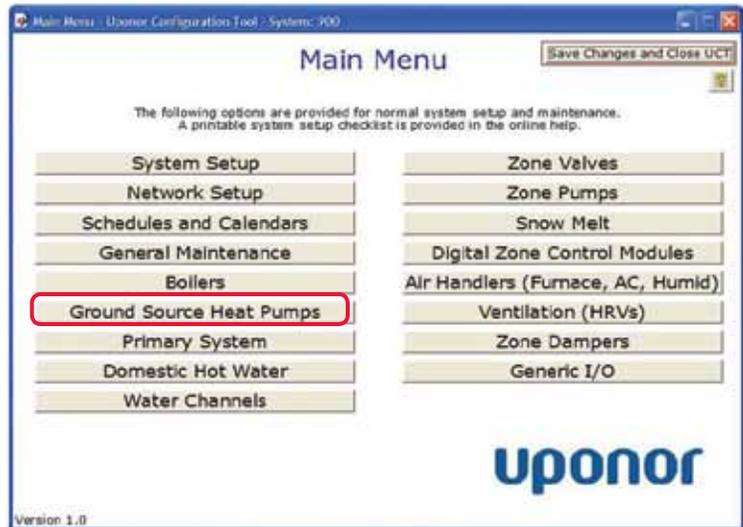
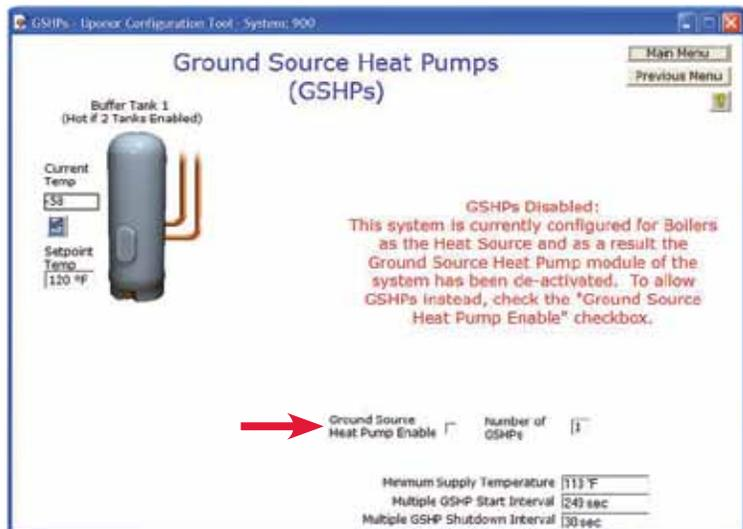

Figure 2.7-1: Main Menu Screen
Figure 2.7-2: Ground Source Heat Pumps Screen
1. From the **Main Menu**, click on the **Ground Source Heat Pumps** button shown in **Figure 2.7-1** to display the Ground Source Heat Pumps (GSHPs) screen shown in **Figure 2.7-2**.